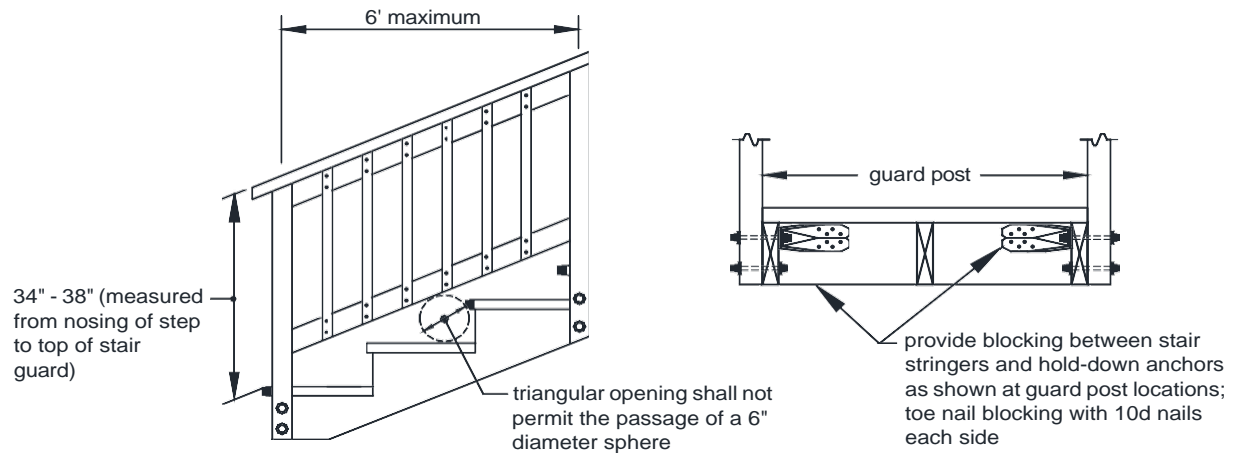

FIGURE 42: STAIR GUARD
Stair guards. Stair guards are required when the total rise of the stair is greater than 30 inches at a point 36 inches from the edge of the stair. Stair guards shall be constructed in accordance with Section 8 and **FIGURE 42.**
- Handrails shall be attached to a stair guard or exterior wall acting as a barrier as shown in see **FIGURE 42.**